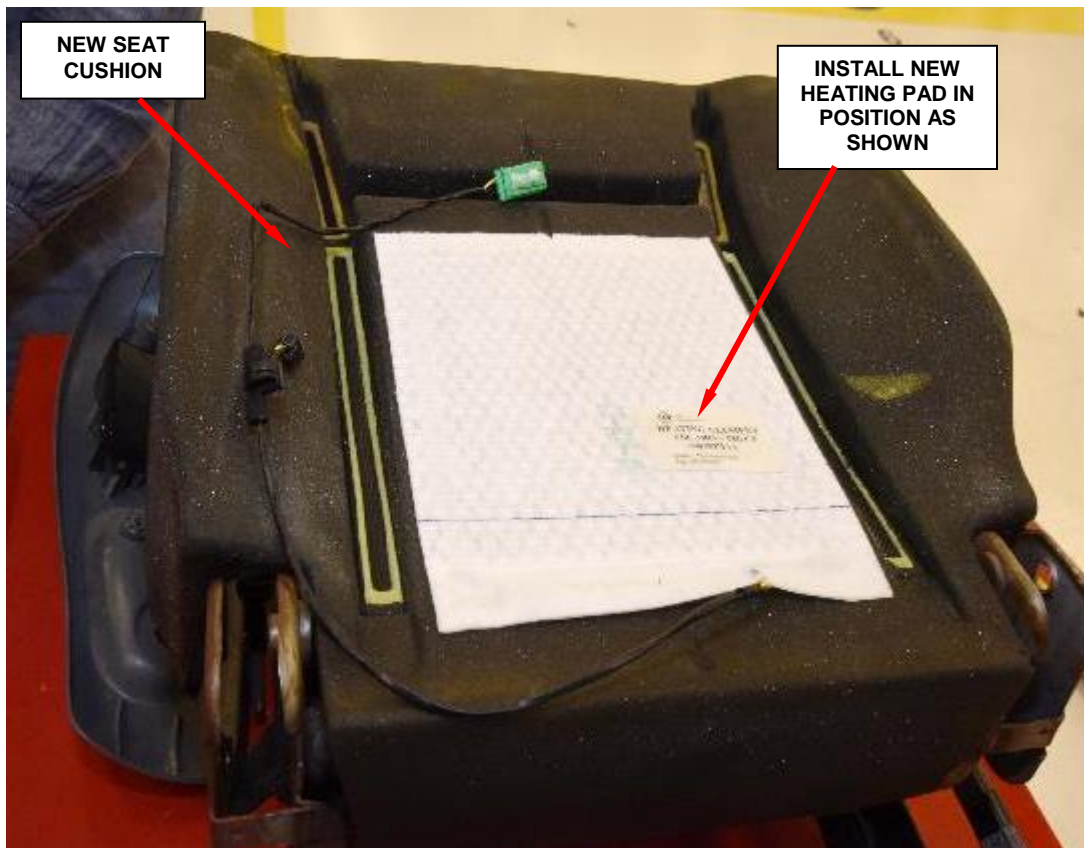

Figure 22 – Seat Cushion Heating Pad Location
41. Peel off the adhesive backing of the **NEW** replacement heating pad and stick on the seat cushion directly where the original pad was placed, as shown (Figure 22).